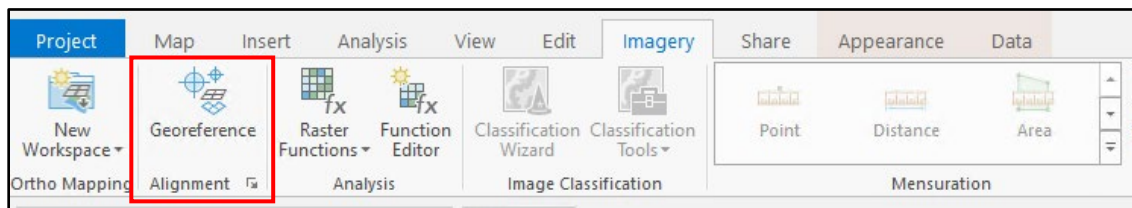
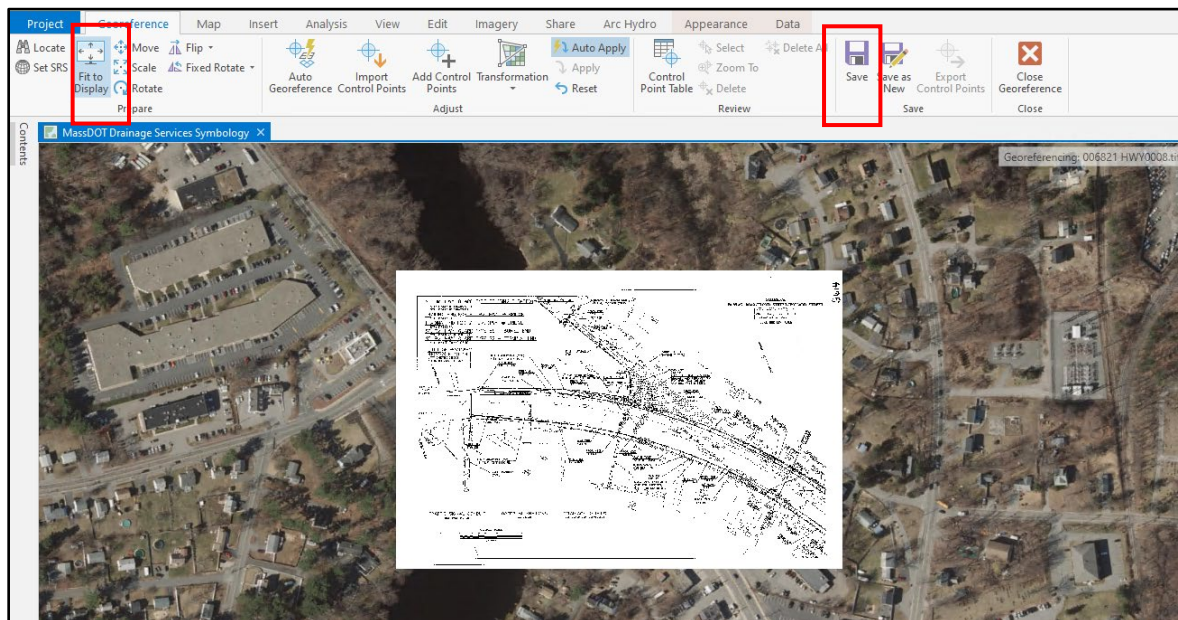

Figure 28
Figure 29
5. Open the Georeferencing toolbar from the Imagery tab (Figure 28). Zoom to the general area depicted on the plan and click "Fit to Display" (Figure 29) and hit "Save" within the Georeferencing toolbar. Once the plan is in the right general area, use the Rescale tool (Step 5a) or control points (Step 5b) to resize the image. Then, rotate or move the image as needed before digitizing.